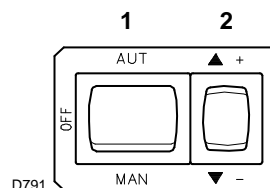
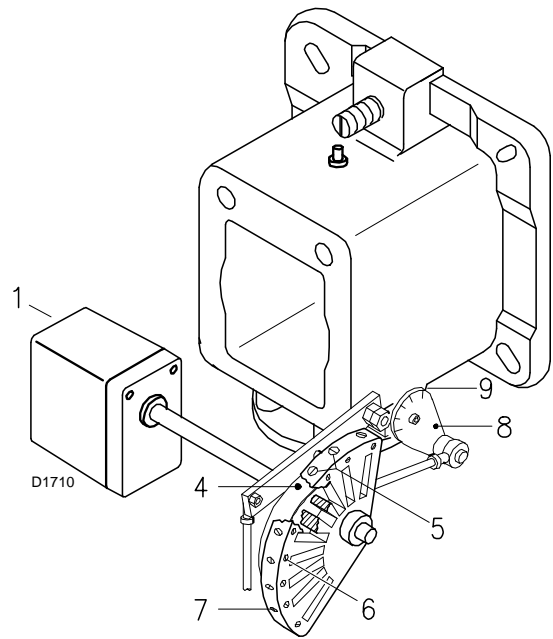
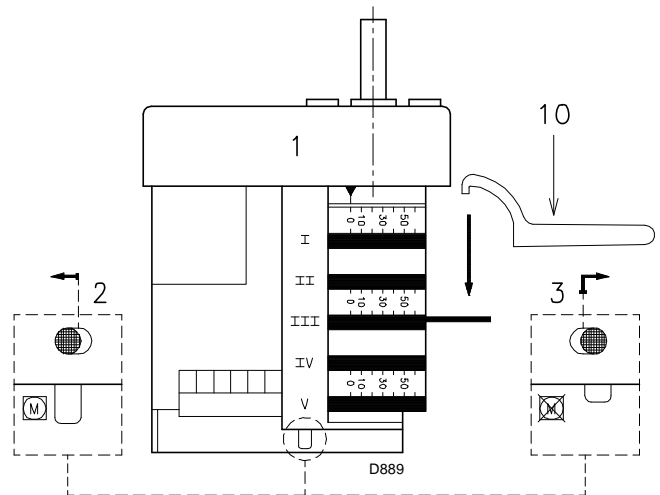

Fig. 36
Fig. 37
Fig. 38
Close the control devices and set switch 1)(Fig. 36) to "MAN".
In the above instructions we left the burner running in MIN. output operation. Now press button 2)(Fig. 36) "increase output" and keep it pressed until the servomotor has opened the air gate valve and the gas butterfly valve.
Progressively adjust the end profile of cam 4)(Fig. 37) by turning the screws 7).
Press button 2)(Fig. 36 at page 29) “output reduction” until the servomotor has closed the air gate valve and the gas butterfly valve to 30° (factory set adjustment).
- If this value is to be reduced, decrease the angle of cam III (Fig. 38) slightly by proceeding a little at a time until the angle is changed from 30° to 28° - 26°....
- If it has to be increased press the button “output increase” 2)(Fig. 36 at page 29) (i.e. open the gas butterfly valve by 10-15°), increase the cam III angle (Fig. 38) with small successive movements, i.e. take it from angle 30° to 32° - 34°... Then press the button “output decrease” until the servomotor is taken to the minimum opening position and measure the gas delivery.
- In order to adjust cam III, especially for fine movements, the key 10)(Fig. 38), held by a magnet under the servomotor, can be used.
Progressively adjust the starting profile of cam 4)(Fig. 37) by turning the screws 5).
Key Fig. 37
Press the key 2)(Fig. 36 at page 29) "output increase" a little so that the servomotor turns by about 15°.
- Switch off the burner using switch 1)(Fig. 36 at page 29), at OFF position;
- disengage the cam 4)(Fig. 37) from the servomotor, by pressing the button 3)(Fig. 38);
- Engage the cam 4) to the servomotor again by moving the button 2)(Fig. 38) to the left.
- Finally fix the adjustment by turning the screws 6)(Fig. 37).
Disengage the cam 4)(Fig. 37 at page 30) from the servomotor, by pressing and moving button 3)(Fig. 38) towards the right, and turn it backwards and forwards by hand to make sure it moves freely. Now engage the cam again by moving the button 2)(Fig. 38) to the left.